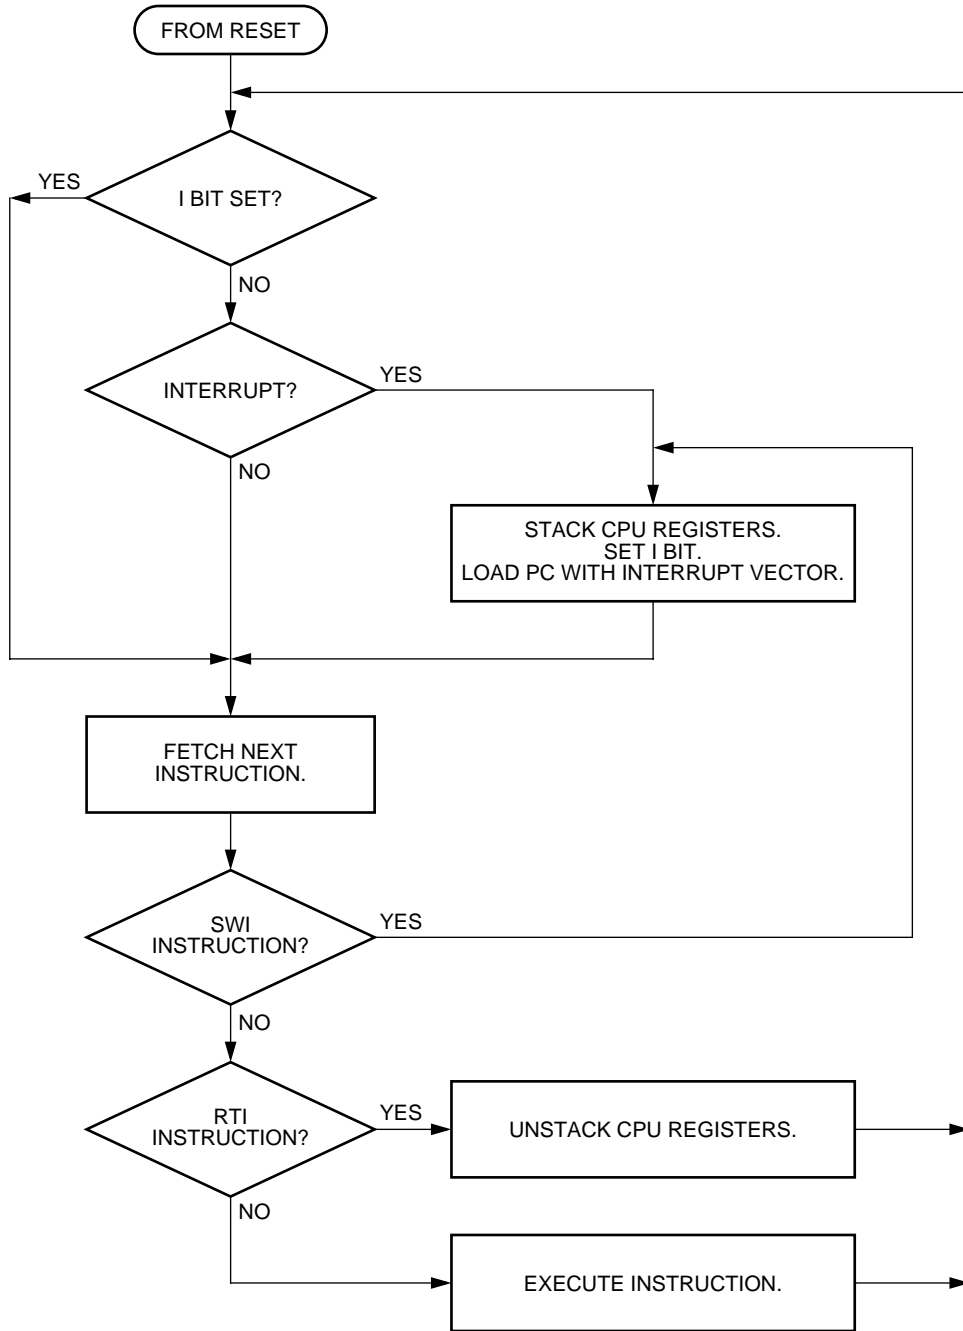

Figure 4. IRQ interrupt flowchart
NOTE: The interrupt mask (I) in the condition code register (CCR) masks all interrupt requests, including external interrupt requests. See Figure 4